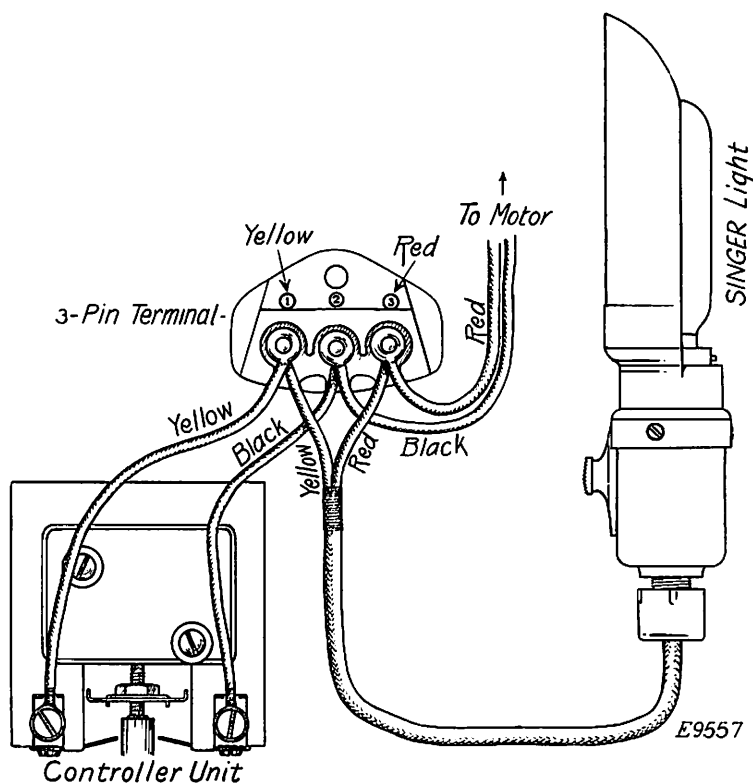

Fig. 18. Wiring Diagram for SU or SE Motors
Place the eyelets at the ends of the black leads on the centre post (2) of the three-pin terminal block; place the eyelets at the ends of the red leads on the post nearest the red spot (3), and place the eyelets at the ends of the yellow leads on the post nearest the yellow spot (1). See Fig. 18 for wiring diagram.